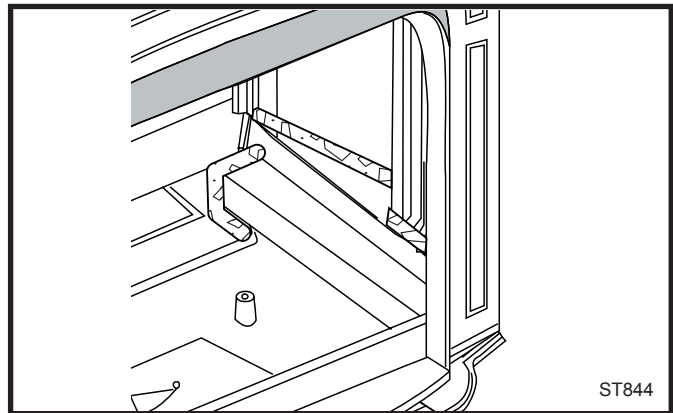

Fig. 10 Cement locations: right shoulder, inner side.
23. Cement the stove bottom, air manifold and right inner side at the locations indicated in Figure 10. Install the right shoulder plate into position.